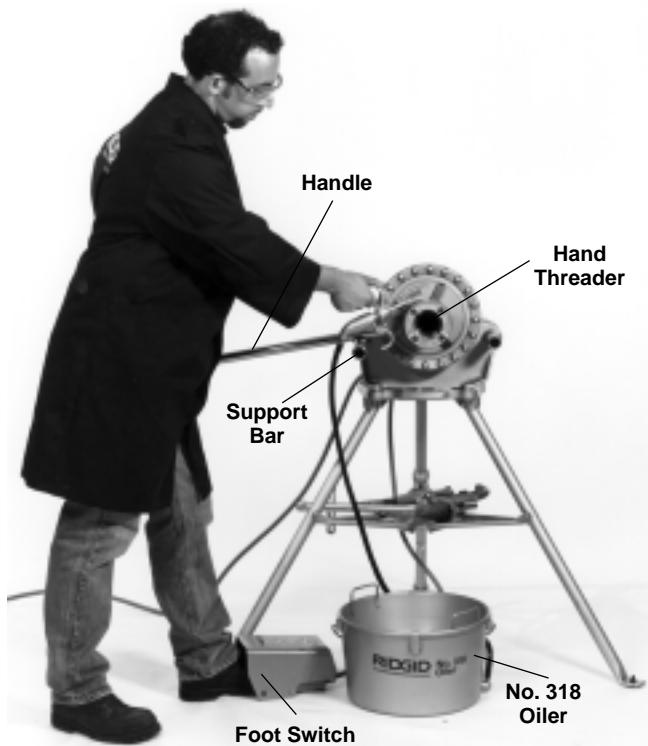

Figure 6 – Oiling Hand Threader Dies
2. Place No. 318 Oiler (*Figure 6*) under threader and apply RIDGID Thread Cutting Oil on pipe end.
**NOTE!** Threader is automatic once dies are engaged. Apply plenty of oil (*Figure 6*) until threads are completed.